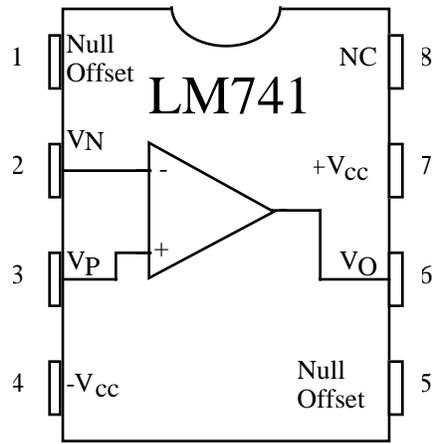

Figure 3 - 741 Connections
a. Study the chip layout of Fig. 3. The standard procedure on DIP (dual in-line package) "chips" is to identify pin 1 with a notch in the end of the chip package. The notch always separates pin 1 from the last pin on the chip. In the case of the 741, the notch is between pins 1 and 8.